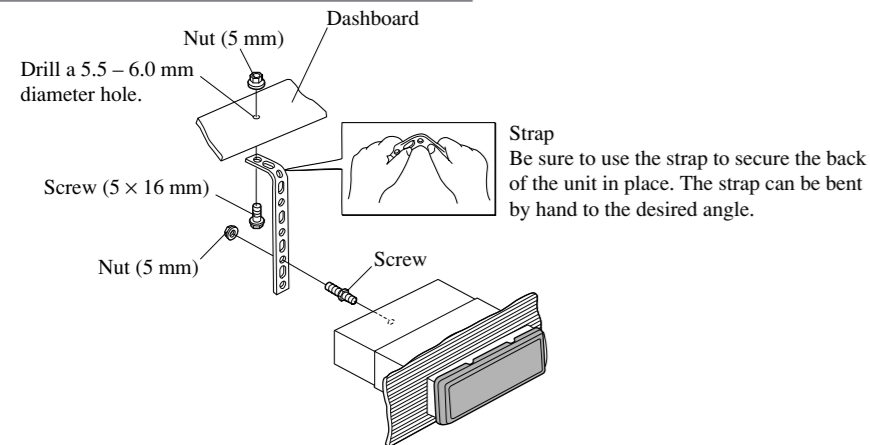

Fig. 7
**Installation without the rubber bush (Fig. 7)**